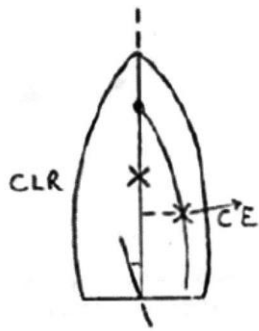

Fig 1
a) Weather and Lee helm: The statement of whether a boat is carrying weather or lee helm is a question of balance between the position of the centre of effort (CE) of the sail and the centre of lateral resistance (CLR) of the hull and its foils. Simply put, if the centre of effort of the sail is behind the centre of resistance of the hull, largely controlled by the centreboard, then the boat will have a tendency to be twisted and turned towards the wind. This will require the helm to be held to weather of the boats centre line in order to bear the boat back off the wind and maintain a straight line course and hence the term weather helm, (fig 1).